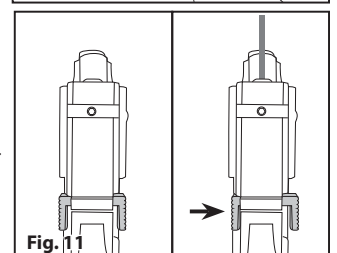
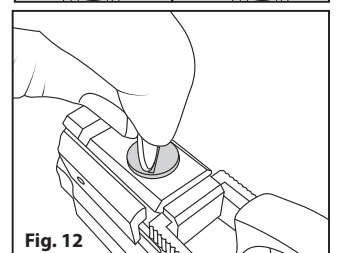

Fig. 11
Fig. 12
- To turn on the laser, push the activation switch in from the right side of the pistol. In the "ON" position, the switch will protrude from the left hand side of the pistol (Fig. 11).
- To turn off the laser, push the activation switch in from the left side of the pistol (Fig. 11).
- This laser uses (1) 1/3N lithium battery OR (2) 357 batteries
- Use a flathead screwdriver or coin to remove to remove the battery cover (Fig. 12).